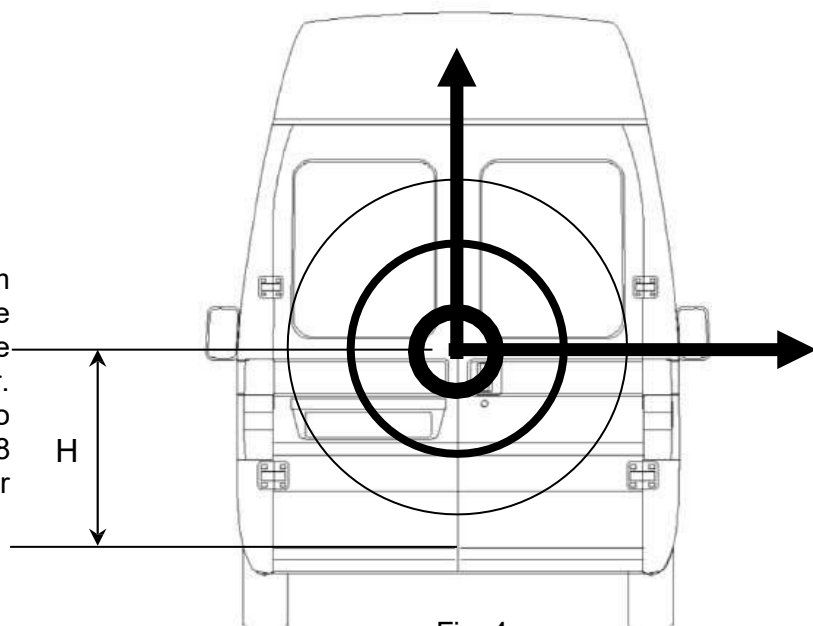

Fig. 4
- The position of the lock body relative to the lower edge of the door (H) must be as close as possible to the centre of the door (see fig. 4). Ideally, the distance from the lower edge of the door to the lock (H) is equal to the distance from the lock to the upper edge.